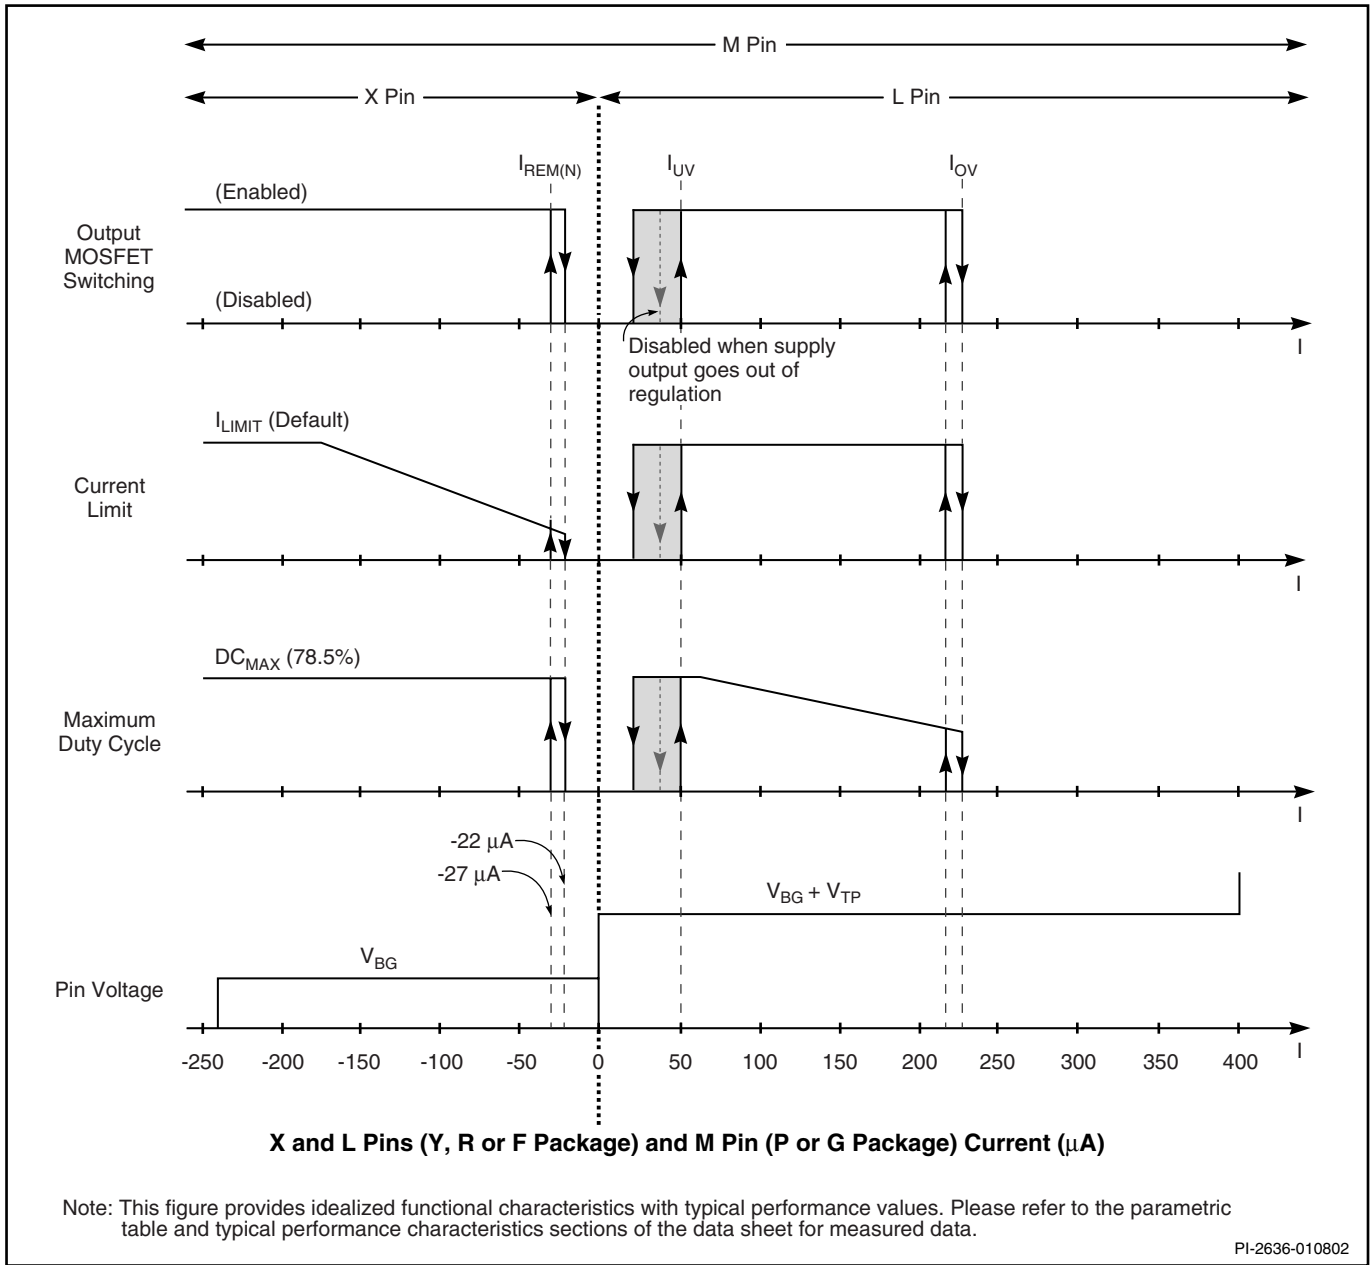
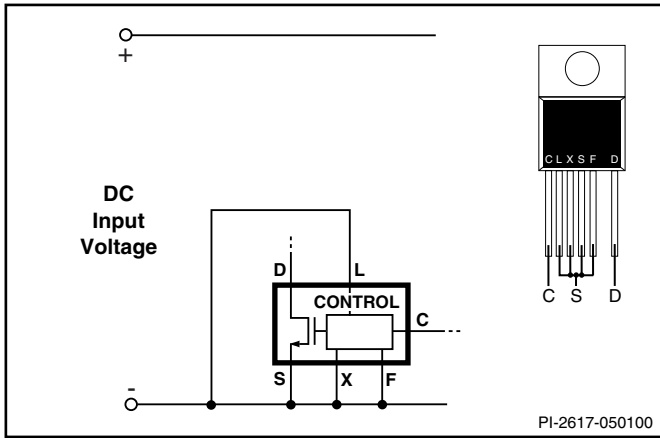
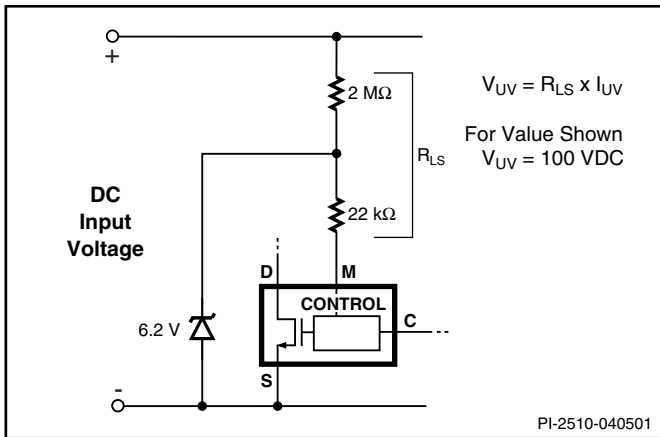

Figure 11. MULTI-FUNCTION (P or G package), LINSE-SENSE, and EXTERNAL CURRENT LIMIT (Y, R or F package) Pin Characteristics.
Figure 16. Three Terminal Operation (LINE-SENSE and EXTERNAL CURRENT LIMIT Features Disabled. FREQUENCY Pin Tied to SOURCE or CONTROL Pin).
Figure 18. Line-Sensing for Under-Voltage Only (Overvoltage Disabled).
The LINE-SENSE (L) pin is usually used for line sensing by connecting a resistor from this pin to the rectified DC high voltage bus to implement line overvoltage (OV), under-voltage (UV) and line feed-forward with  $DC_{MAX}$  reduction. In this mode, the value of the resistor determines the OV/UV thresholds and the  $DC_{MAX}$  is reduced linearly starting from a line voltage above the under-voltage threshold. See Table 2 and Figure 11.
The EXTERNAL CURRENT LIMIT (X) pin is usually used to reduce the current limit externally to a value close to the operating peak current, by connecting the pin to SOURCE through a resistor. This pin can also be used as a remote ON/OFF and a synchronization input in both modes. See Table 2 and Figure 11.
The maximum duty cycle,  $DC_{MAX}$ , is set at a default maximum value of 78% (typical). However, by connecting the LINE-SENSE or MULTI-FUNCTION pin (depending on the package) to the rectified DC high voltage bus through a resistor with appropriate value, the maximum duty cycle can be made to decrease from 78% to 38% (typical) as shown in Figure 11 when input line voltage increases (see line feed forward with  $DC_{MAX}$  reduction).
The same resistor used for UV also sets an overvoltage threshold which, once exceeded, will force *TOPSwitch-GX* output into off-state. The ratio of OV and UV thresholds is preset at 4.5 as can be seen in Figure 11. When the MOSFET is off, the rectified DC high voltage surge capability is increased to the voltage rating of the MOSFET (700 V), due to the absence of the reflected voltage and leakage spikes on the drain. A small amount of hysteresis is provided on the OV threshold to prevent noise triggering. The OV feature can be disabled independent of the UV feature as shown in Figures 18 and 32.
feature, the maximum duty cycle  $DC_{MAX}$  is also reduced from 78% (typical) at a voltage slightly higher than the UV threshold to 30% (typical) at the OV threshold (see Figure 11). Limiting  $DC_{MAX}$  at higher line voltages helps prevent transformer saturation due to large load transients in forward converter applications.  $DC_{MAX}$  of 38% at the OV threshold was chosen to ensure that the power capability of the *TOPSwitch-GX* is not restricted by this feature under normal operation.
*TOPSwitch-GX* can be turned on or off by controlling the current into the LINE-SENSE pin or out from the EXTERNAL CURRENT LIMIT pin (Y, R or F package) and into or out from the MULTI-FUNCTION pin (P or G package) (see Figure 11). In addition, the LINE-SENSE pin has a 1 V threshold comparator connected at its input. This voltage threshold can also be used to perform remote ON/OFF control. This allows easy implementation of remote ON/OFF control of *TOPSwitch-GX* in several different ways. A transistor or an optocoupler output connected between the EXTERNAL CURRENT LIMIT or LINE-SENSE pins (Y, R or F package) or the MULTI-FUNCTION pin (P or G package) and the SOURCE pin implements this function with “active-on” (Figures 22, 29 and 36) while a transistor or an optocoupler output connected between the LINE-SENSE pin (Y, R or F package) or the MULTI-FUNCTION (P or G package) pin and the CONTROL pin implements the function with “active-off” (Figures 23 and 37).
There are a total of four functions available through the use of the LINE-SENSE pin: OV, UV, line feed-forward with  $DC_{MAX}$  reduction, and remote ON/OFF. Connecting the LINE-SENSE pin to the SOURCE pin disables all four functions. The LINE-SENSE pin is typically used for line sensing by connecting a resistor from this pin to the rectified DC high voltage bus to implement OV, UV and  $DC_{MAX}$  reduction with line voltage. In this mode, the value of the resistor determines the line OV/UV thresholds, and the  $DC_{MAX}$  is reduced linearly with rectified DC high voltage starting from just above the UV threshold. The pin can also be used as a remote ON/OFF and a synchronization input. Refer to Table 2 for possible combinations of the functions with example circuits shown in Figure 16 through Figure 40. A description of specific functions in terms of the LINE-SENSE pin I/V characteristic is shown in Figure 11 (right hand side). The horizontal axis represents LINE-SENSE pin current with positive polarity indicating currents flowing into the pin. The meaning of the vertical axes varies with functions. For those that control the ON/OFF states of the output such as UV, OV and remote ON/OFF, the vertical axis represents the enable/disable states of the output. UV triggers at  $I_{UV}$  (+50  $\mu$ A typical with 30  $\mu$ A hysteresis) and OV triggers at  $I_{OV}$  (+225  $\mu$ A typical with 8  $\mu$ A hysteresis). Between the UV and OV thresholds, the output is enabled. For line feed-forward with
There are two functions available through the use of the EXTERNAL CURRENT LIMIT pin: external current limit and remote ON/OFF. Connecting the EXTERNAL CURRENT LIMIT pin and SOURCE pin disables the two functions. In high efficiency applications, this pin can be used to reduce the current limit externally to a value close to the operating peak current by connecting the pin to the SOURCE pin through a resistor. The pin can also be used for remote ON/OFF. Table 2 shows several possible combinations using this pin. See Figure 11 for a description of the functions where the horizontal axis (left hand side) represents the EXTERNAL CURRENT LIMIT pin current. The meaning of the vertical axes varies with function. For those that control the ON/OFF states of the output such as remote ON/OFF, the vertical axis represents the enable/disable states of the output. For external current limit, the vertical axis represents the magnitude of the  $I_{LIMIT}$ . Please see graphs in the Typical Performance Characteristics section for the current limit programming range and the selection of appropriate resistor value.
be used as a remote ON/OFF and a synchronization input in both modes. Please refer to Table 3 for possible combinations of the functions with example circuits shown in Figure 30 through Figure 40. A description of specific functions in terms of the MULTI-FUNCTION pin I/V characteristic is shown in Figure 11. The horizontal axis represents MULTI-FUNCTION pin current with positive polarity indicating currents flowing into the pin. The meaning of the vertical axes varies with functions. For those that control the ON/OFF states of the output such as UV, OV and remote ON/OFF, the vertical axis represents the enable/disable states of the output. UV triggers at  $I_{UV}$